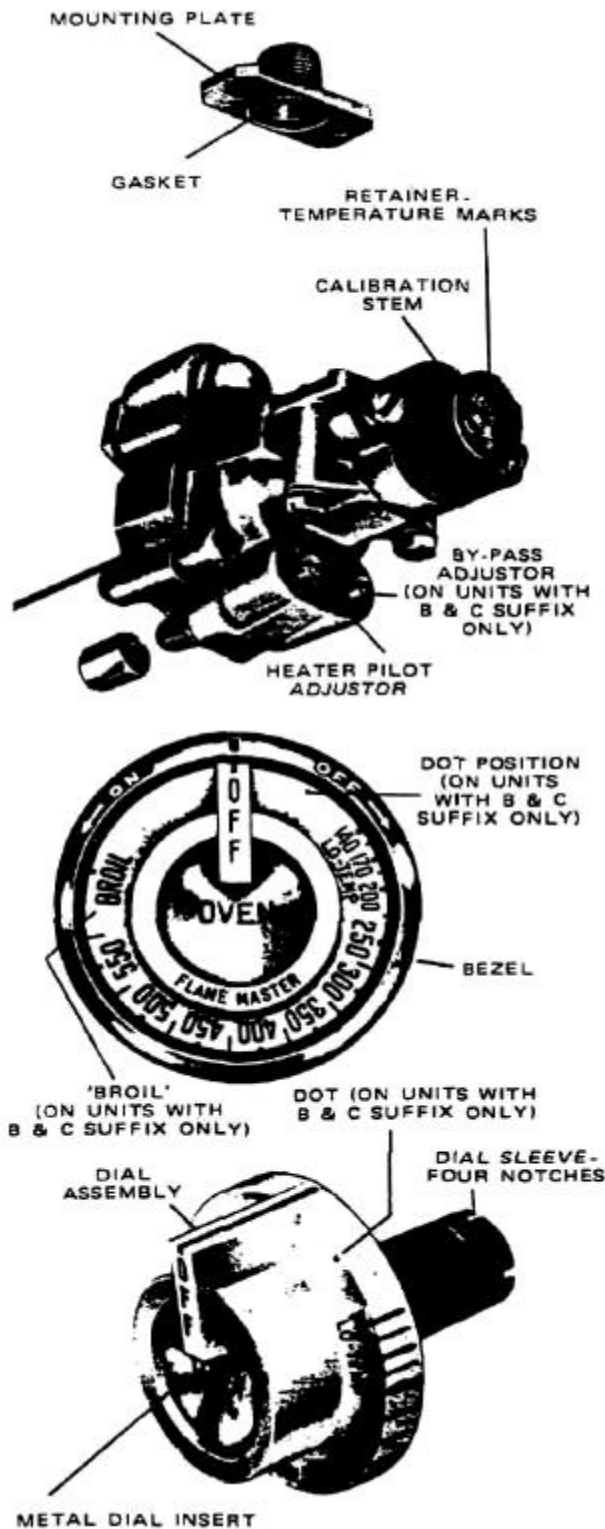

Figure 1
2. Turn bypass adjuster (Fig. 1) counterclockwise to full open.
1. Remove dial and push out metal insert. (Fig. 1, Section 3, Page 3)
4. Hold dial firmly, insert screwdriver through center of dial, and push calibration stem (See Fig. 1) inward. **(DO NOT TURN THIS STEM.)**
Calibration may be checked at 350° F (instead of 140° F). If this temperature is desired, remove dial and push out metal insert (See Fig. 1, Section 3, Page 3).
- B. **CONTROL PANEL ASSEMBLY COMPONENTS (Single Oven Base Range Units. (See Fig. 1, Section 4, Page 4):** The control panel assembly components are easily serviceable by removing two screws (one at the top and one at the bottom) of the control panel and then sliding out the control panel assembly.